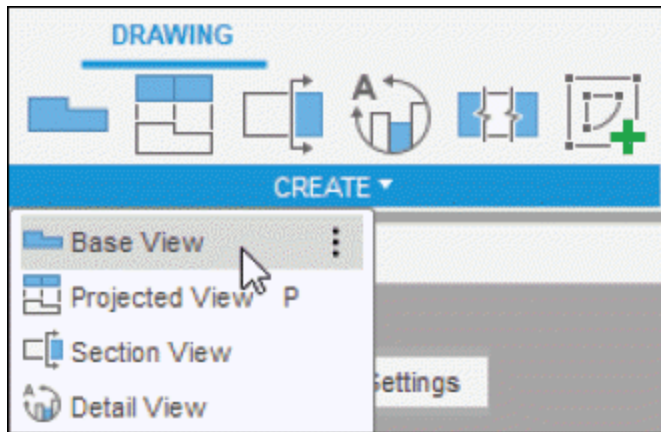

Figure-6. Base View tool
- Click on the **Base View** tool from **CREATE** panel; refer to Figure-6. The **DRAWING VIEW** dialog box will be displayed.